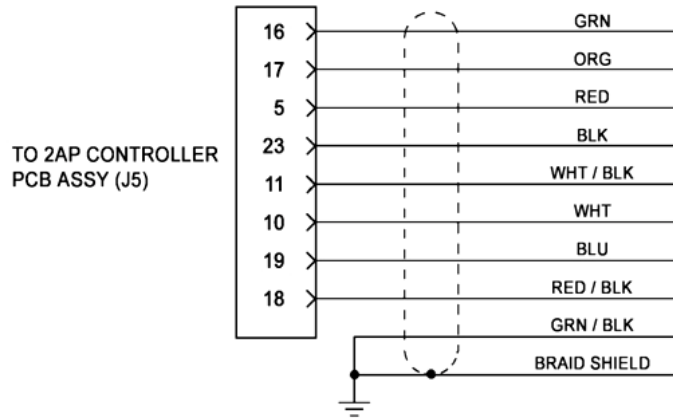

Figure 4.29: Sun Sensor Wire Connections.
- Insert the connector pins from the end of the Sun Sensor cable into the j5 connector of the wiring harness as per schematic, see figure 4.29.